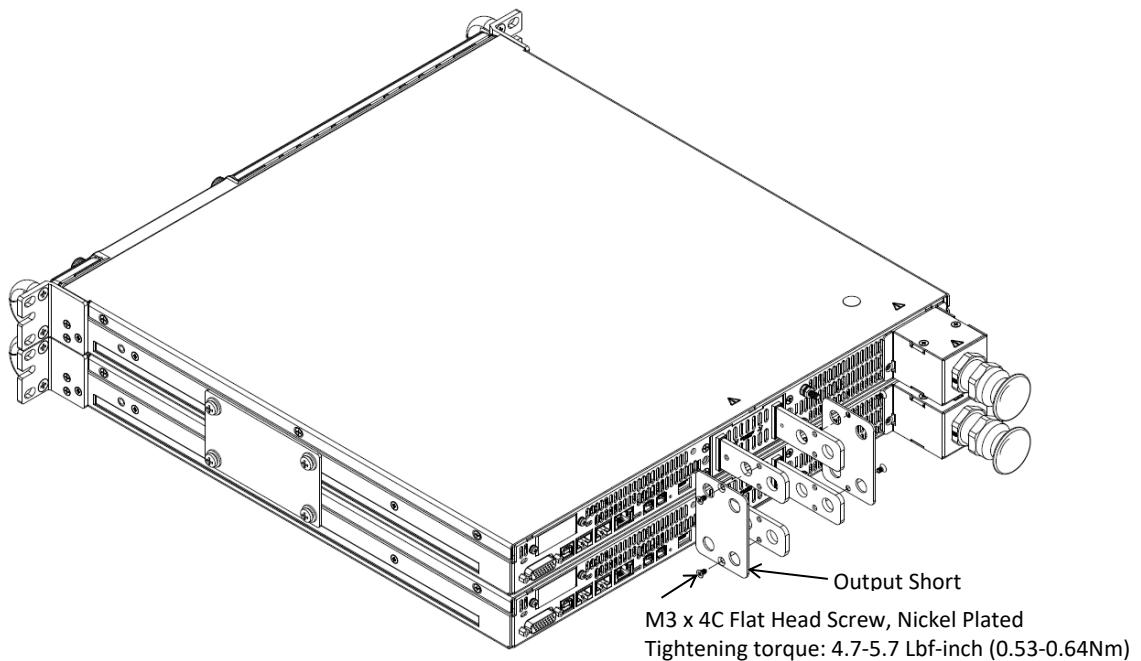

Figure 2: Two 10V Units Output Short Plates Assembly
2. Attach output short plates, one on each pair of terminals, using four flat head screws as illustrated in Figure 2.